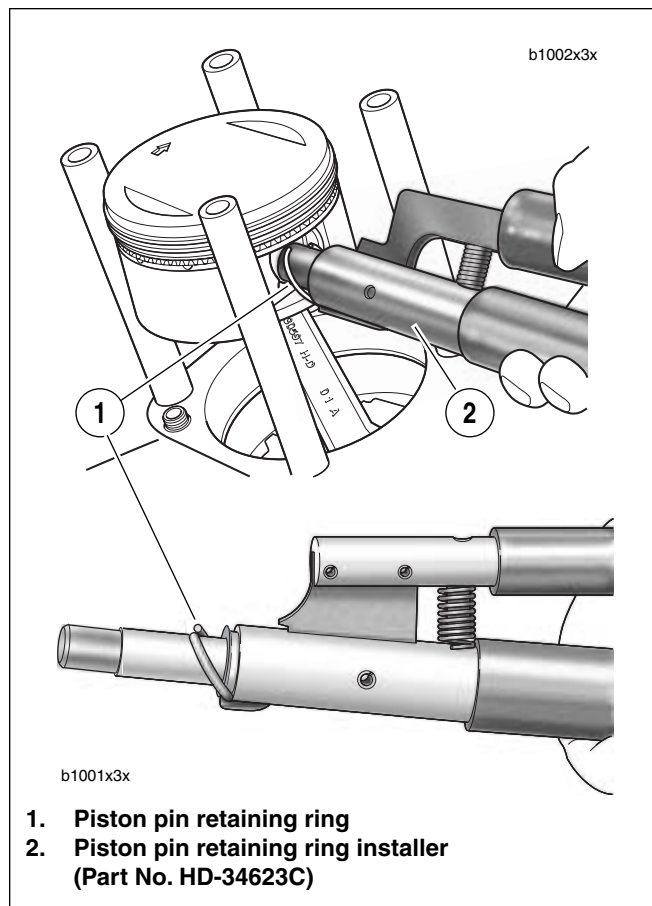

Figure 3-103. Installing Piston Pin Circlip
4. See Figure 3-103. Install **new** piston pin retaining rings (1) using PISTON PIN RETAINING RING INSTALLER (2) (Part No. HD-34623C). Place **new** retaining ring on tool with gap pointing up.